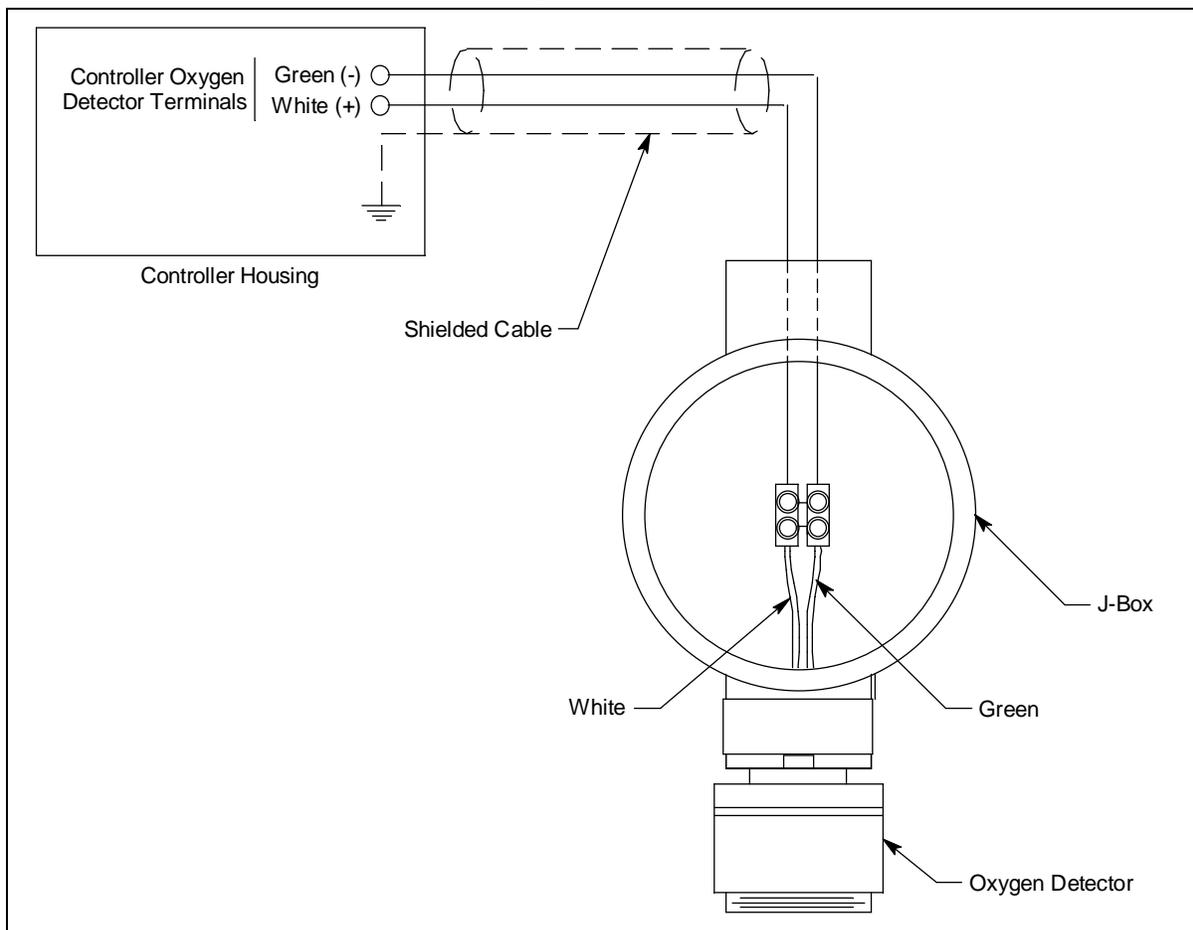

Figure 4: Wiring the Oxygen Detector to a Controller
If the detector is mounted directly to a controller, it is normally factory wired. Confirm that the detector's white and green wires are connected to the appropriate controller detector terminals and skip to "Start Up" on page 10. See Figure 4, the controller operator's manual, and the controller's detector head specification sheet for the 65-2494RK detector for the wiring connections.
7. If the detector is installed directly on a controller, connect the detector leads to the appropriate detector terminal strip terminals. See Figure 4 on page 9 for wiring to a generic controller. See the controller operator's manual and the controller's detector head specification sheet for the 65-2494RK detector for wiring specific to your controller.
If the detector is installed remotely from a controller in a junction box, connect the detector leads to the terminal block the same way the old detector was wired (see Figure 4 on page 9). See the controller operator's manual and the controller's detector head specification sheet for the 65-2497RK detector to verify the connections to the controller are correct.